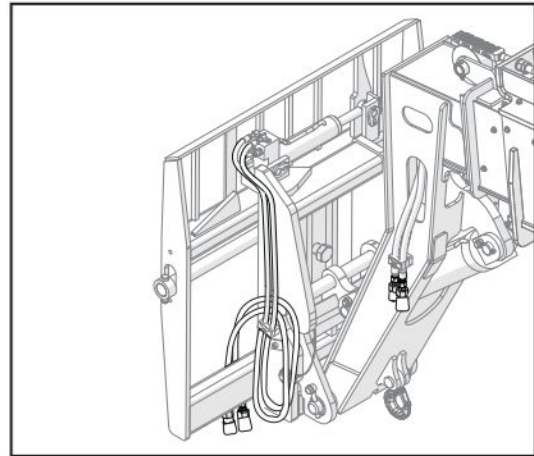

Figure 50 Hydraulic Hoses
6. Secure the carriage hoses between the carriage and the platform as shown in figure 50.